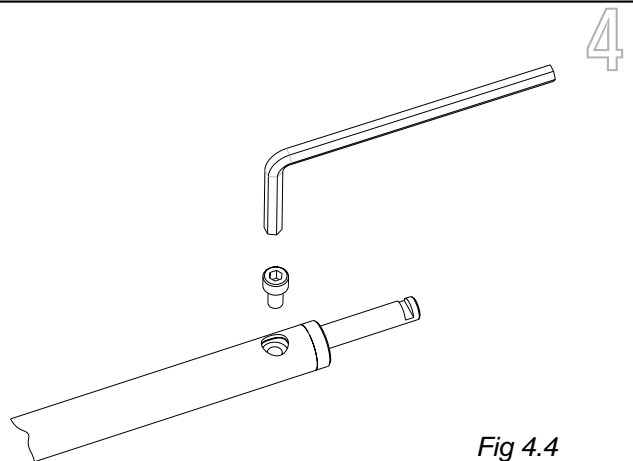

Fig 4.4
- 7) Fit rod connectors to rods using 2 socket headed cap screws (Items 28). Secure with supplied Allen key (Item 13) **See Fig 4.4**